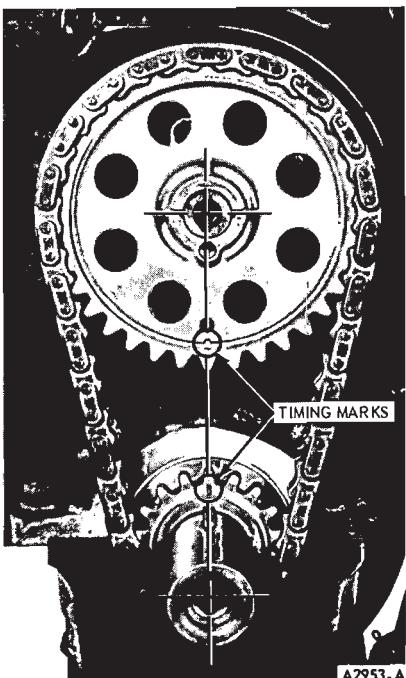

FIG. 22—Aligning Timing Marks
gine until timing marks on sprockets are as shown in Fig. 22.
1. Assemble the timing chain and sprockets so sprocket timing marks point directly toward each other as shown in Fig. 22. Install the chain and sprockets as an assembly to crankshaft and camshaft. Verify proper alignment of timing marks after installation.